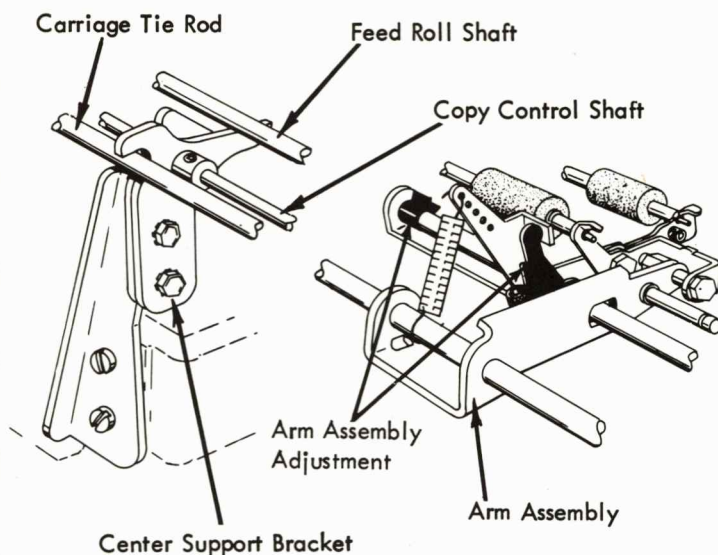

FIGURE 188. Center Support Bracket
- b. Late Paper Feed Mechanism - With the feed roll tension springs disconnected, the center support bracket (Fig. 188) should be positioned so that the forward lug just touches the underside of the feed roll shaft while the rear lug just touches the top of the carriage tie rod. The center support bracket should not bow the copy control shaft.
- Late - The left and right hand front feed roll arm assemblies should be adjusted to give end play to the feed roll shafts that will not permit them to contact the sides of the openings in the deflector but will permit them to roll freely (Fig. 188). Not Shown.